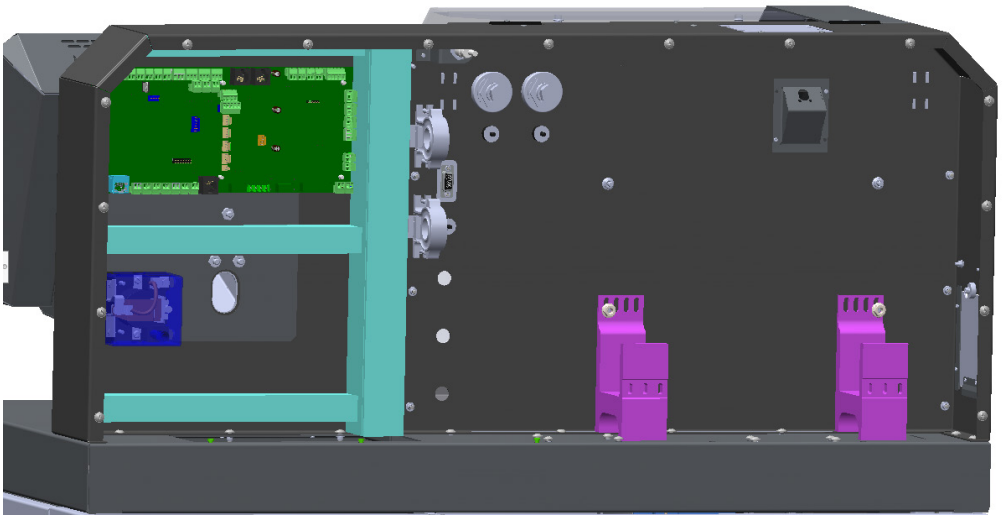

Figure 3. Mounting the brackets
- When installing, position the brackets to the extreme holes according to figure 3.